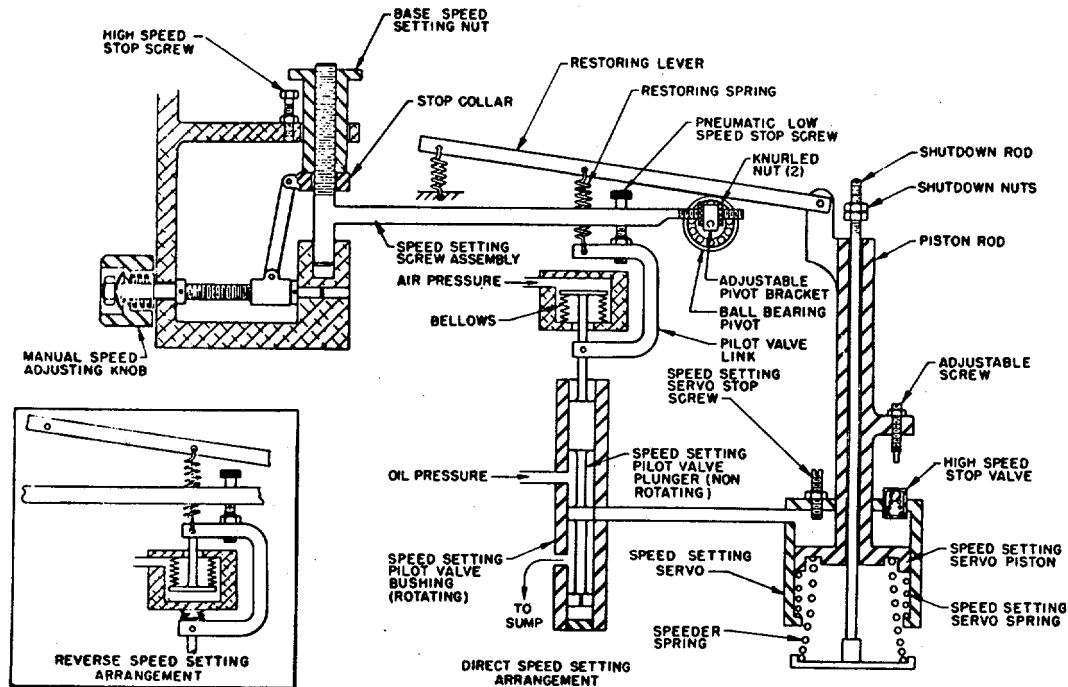

Fig. 12-7 - Pneumatic Speed Setting, Schematic Diagram
The "reverse" speed setting schematic for governors in which the speed setting is lowered as signal pressure increases differs but slightly from the "direct" speed setting arrangement. The differences are shown in the inset of Fig. 12-7: (1) the bellows housing and bellows assembly are turned upside down so that the air signal raises rather than lowers the speed setting pilot valve plunger, and (2) a spring, acting in the direction to lower the pilot valve plunger, is placed between the bellows housing and pilot valve link. The loading spring on the left end of the restoring lever is omitted in reverse governors since the spring under the bellows housing has the same effect.
A manual speed adjusting knob, Fig. 12-7, can be used to adjust the speed setting to any point within the normal speed range when the air signal is not available.